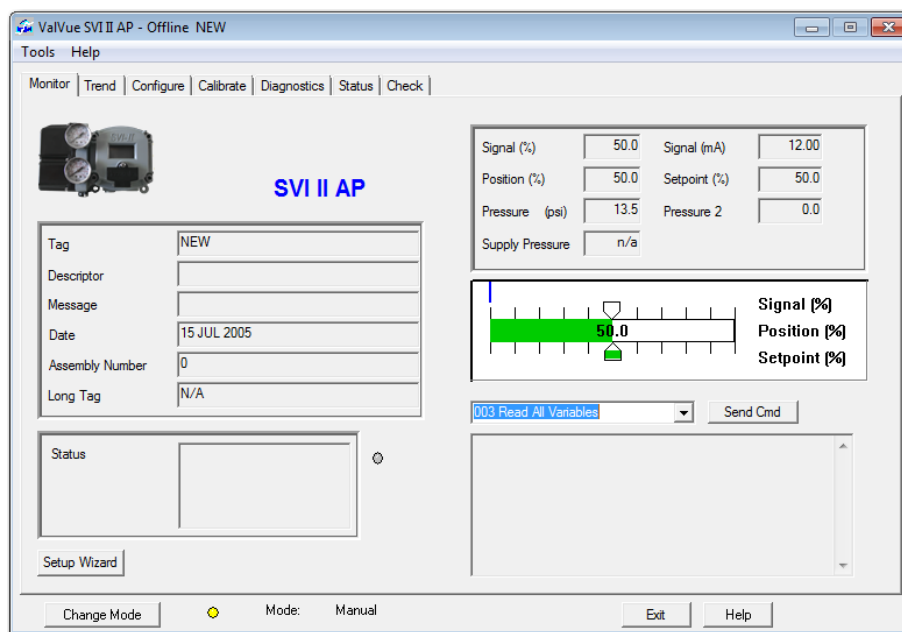

Figure 53 Selecting a Command to Send
1. Select the command from the drop down list (Figure 53).